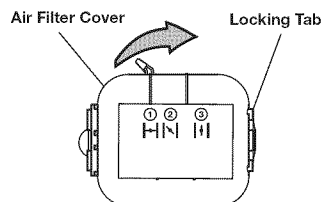

Fig. 20
- Swing the cover to the right and press closed so the air filter cover tab snaps into the slot on the back plate (Fig. 20).